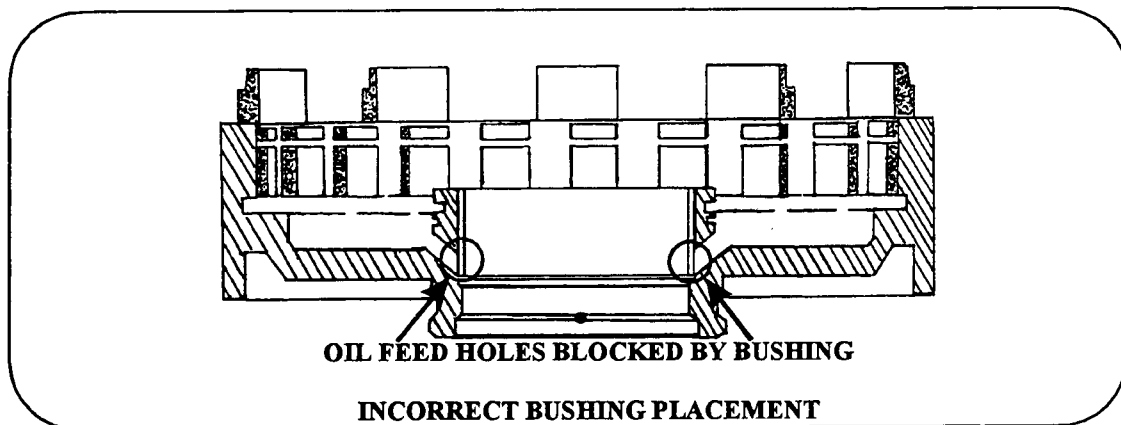
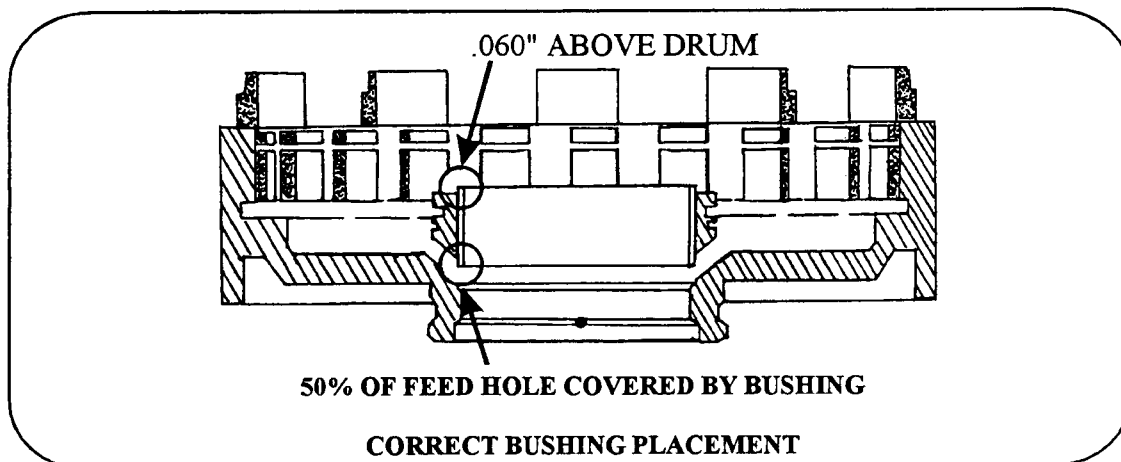

Figure 16
Figure 17
**CAUSE:** One cause may be that the bushing in the reverse input drum has moved forward blocking the two oil feed holes (See Figure 16). The normal position of the bushing is about .060" above the drum surface and covers 50% of the feed holes (See Figure 17).